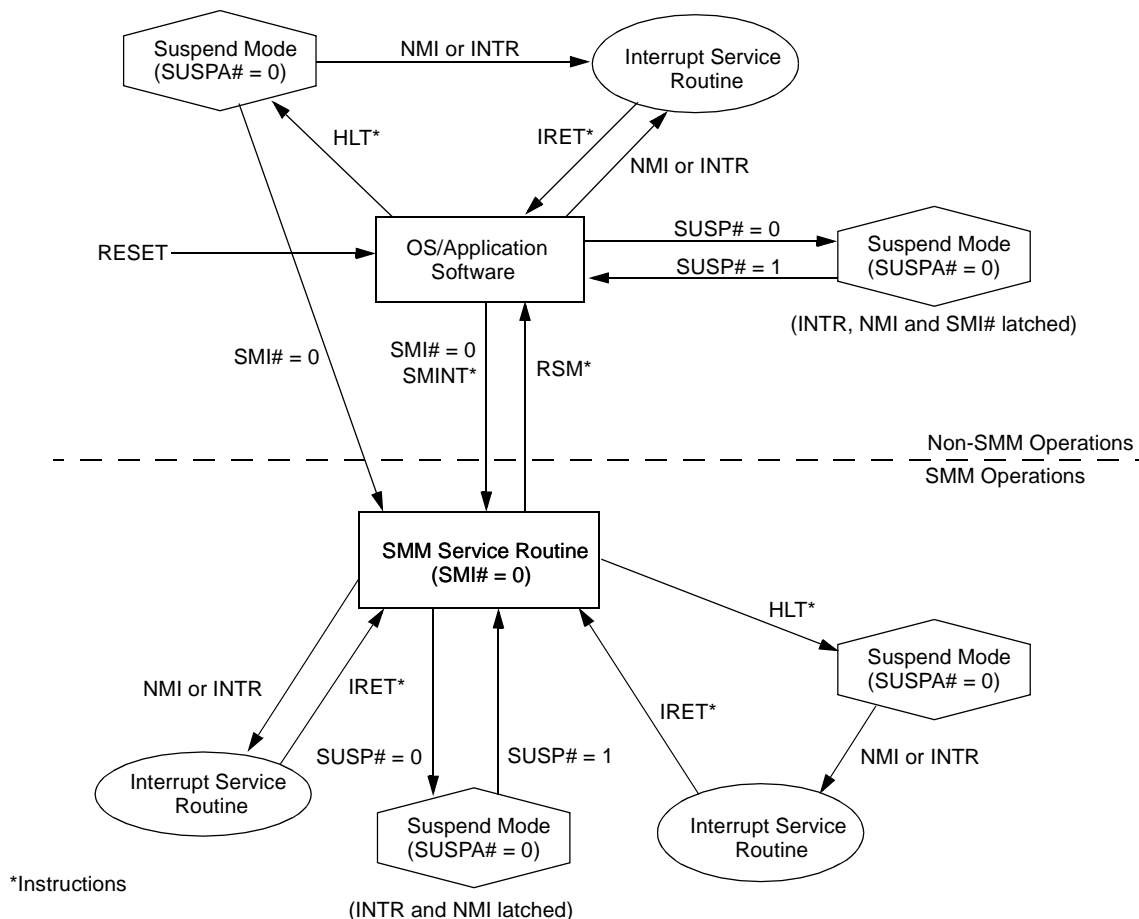

Figure 3-12. SMM and Suspend Mode State Diagram
The state diagram shown in Figure 3-12 illustrates the various CPU states associated with SMM and Suspend mode. While in the SMM service routine, the GXLV processor core can enter Suspend mode either by (1) executing a halt (HLT) instruction or (2) by asserting the SUSP# input.